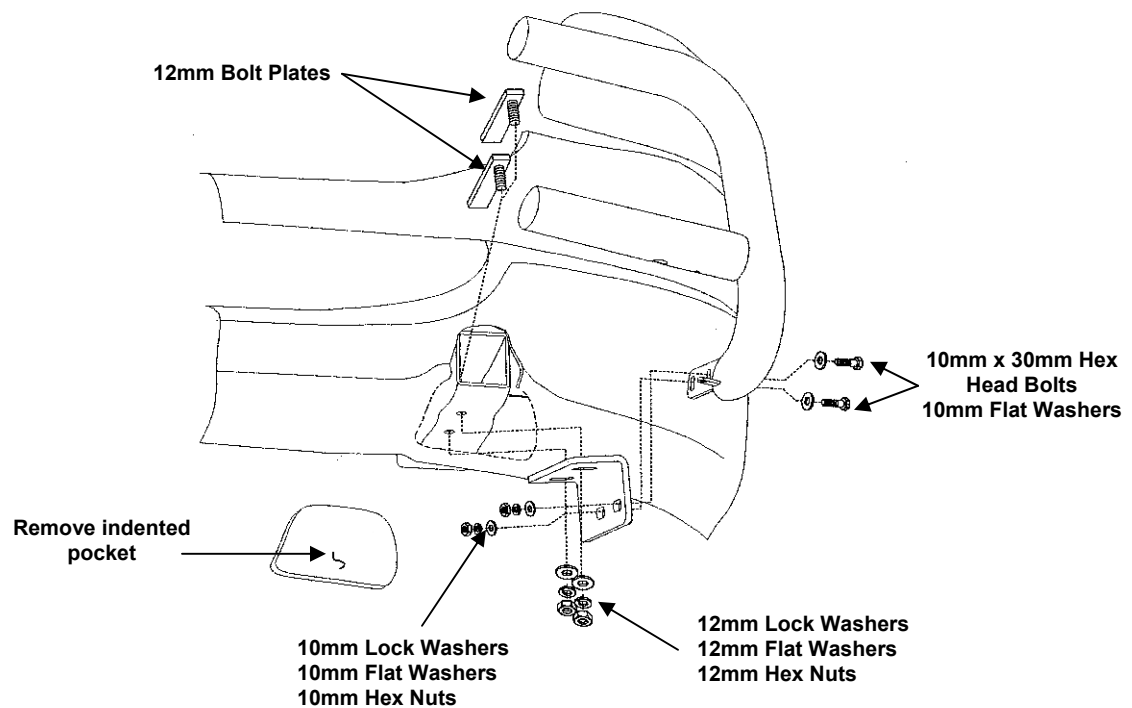

Figure 2
6. Position Bottom Brackets up to bottom frame and through Bolt Plates and secure them with the included (4) 12mm Flat Washers, (4) 12mm Lock Washers, and (4) Hex Nuts **(Figure 2)**.
7. Position Bull Bar on the outer side of Mounting Brackets. Attach Bull Bar to Mounting Brackets using the included (4) 10mm x 30mm Hex Head Bolts, (4) 10mm Lock Washers, (4) 10mm Hex Nuts, and (8) 10mm Flat Washers.